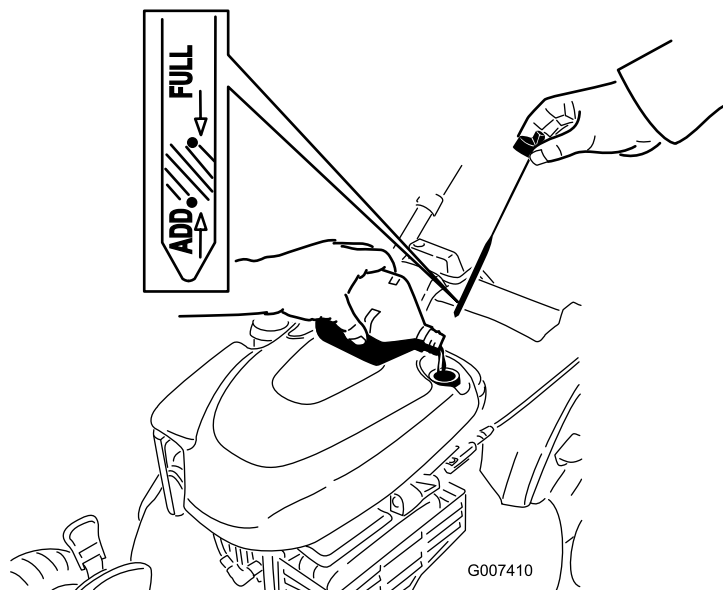

Figure 34
12. Remove the dipstick and read the oil level; refer to Figure 34.